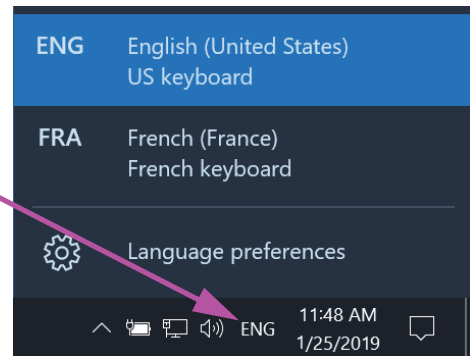

Figure C-9. Drop-Down Language Menu—Welcome Screen
2. Click the three-letter icon and a menu similar to that shown at the top in Figure C-9 appears.